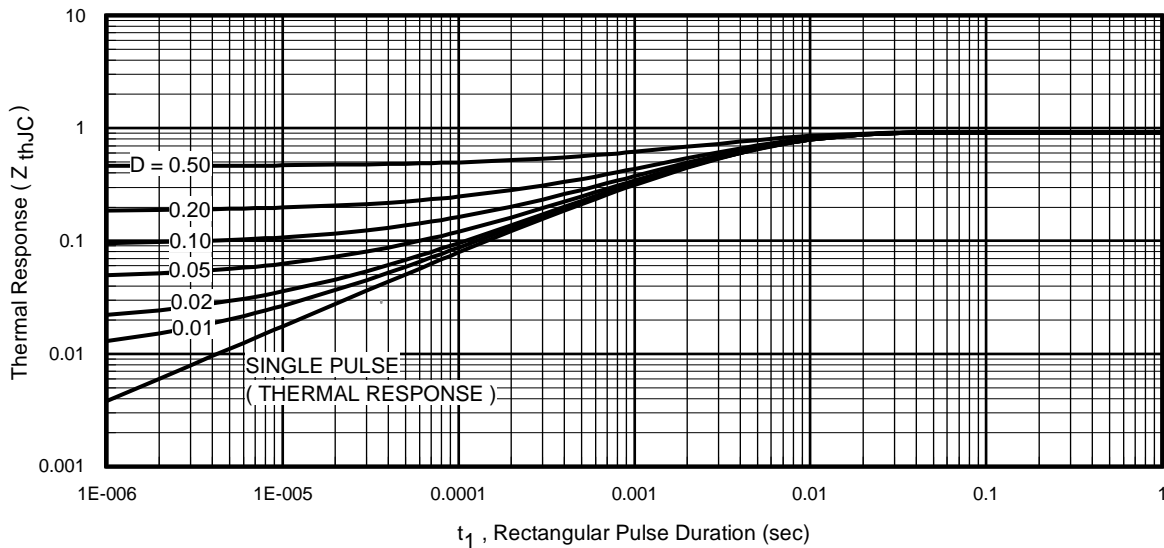

Fig 11. Maximum Effective Transient Thermal Impedance, Junction-to-Case
- ① Repetitive rating; pulse width limited by max. junction temperature. (See fig. 11).
- ② Limited by T_{Jmax}, starting T_J = 25°C, L = 0.27mH, R_G = 25Ω, I_{AS} = 35A, V_{GS} = 10V. Part not recommended for use above this value.
- ③ I_{SD} ≤ 35A, di/dt ≤ 380A/μs, V_{DD} ≤ V_{(BR)DSS}, T_J ≤ 175°C.
- ④ Pulse width ≤ 1.0ms; duty cycle ≤ 2%.
- ⑤ C_{oss eff.} is a fixed capacitance that gives the same charging time as C_{oss} while V_{DS} is rising from 0 to 80% V_{DS}.
$Z_{thJC}(D, t_{av})$ = Transient thermal resistance, see figure 11)